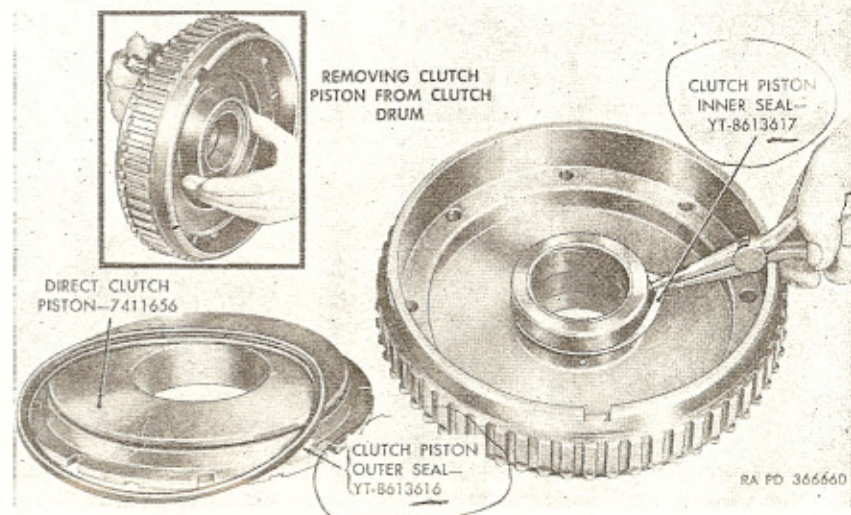

Figure 26. Disassembling reduction unit clutch drum (303M).
g. Remove direct clutch piston from reduction unit clutch drum by rotating piston about one-half inch; then screw two $\frac{3}{8}$ x 3 internal gear-to-drum bolts into drum from behind (inset in fig. 26). Alternately screw bolts same amount to prevent cocking piston. Bolts will partially press piston out of drum; then piston can easily be pulled out with fingers. Remove seals from clutch piston and clutch drum (fig. 26).